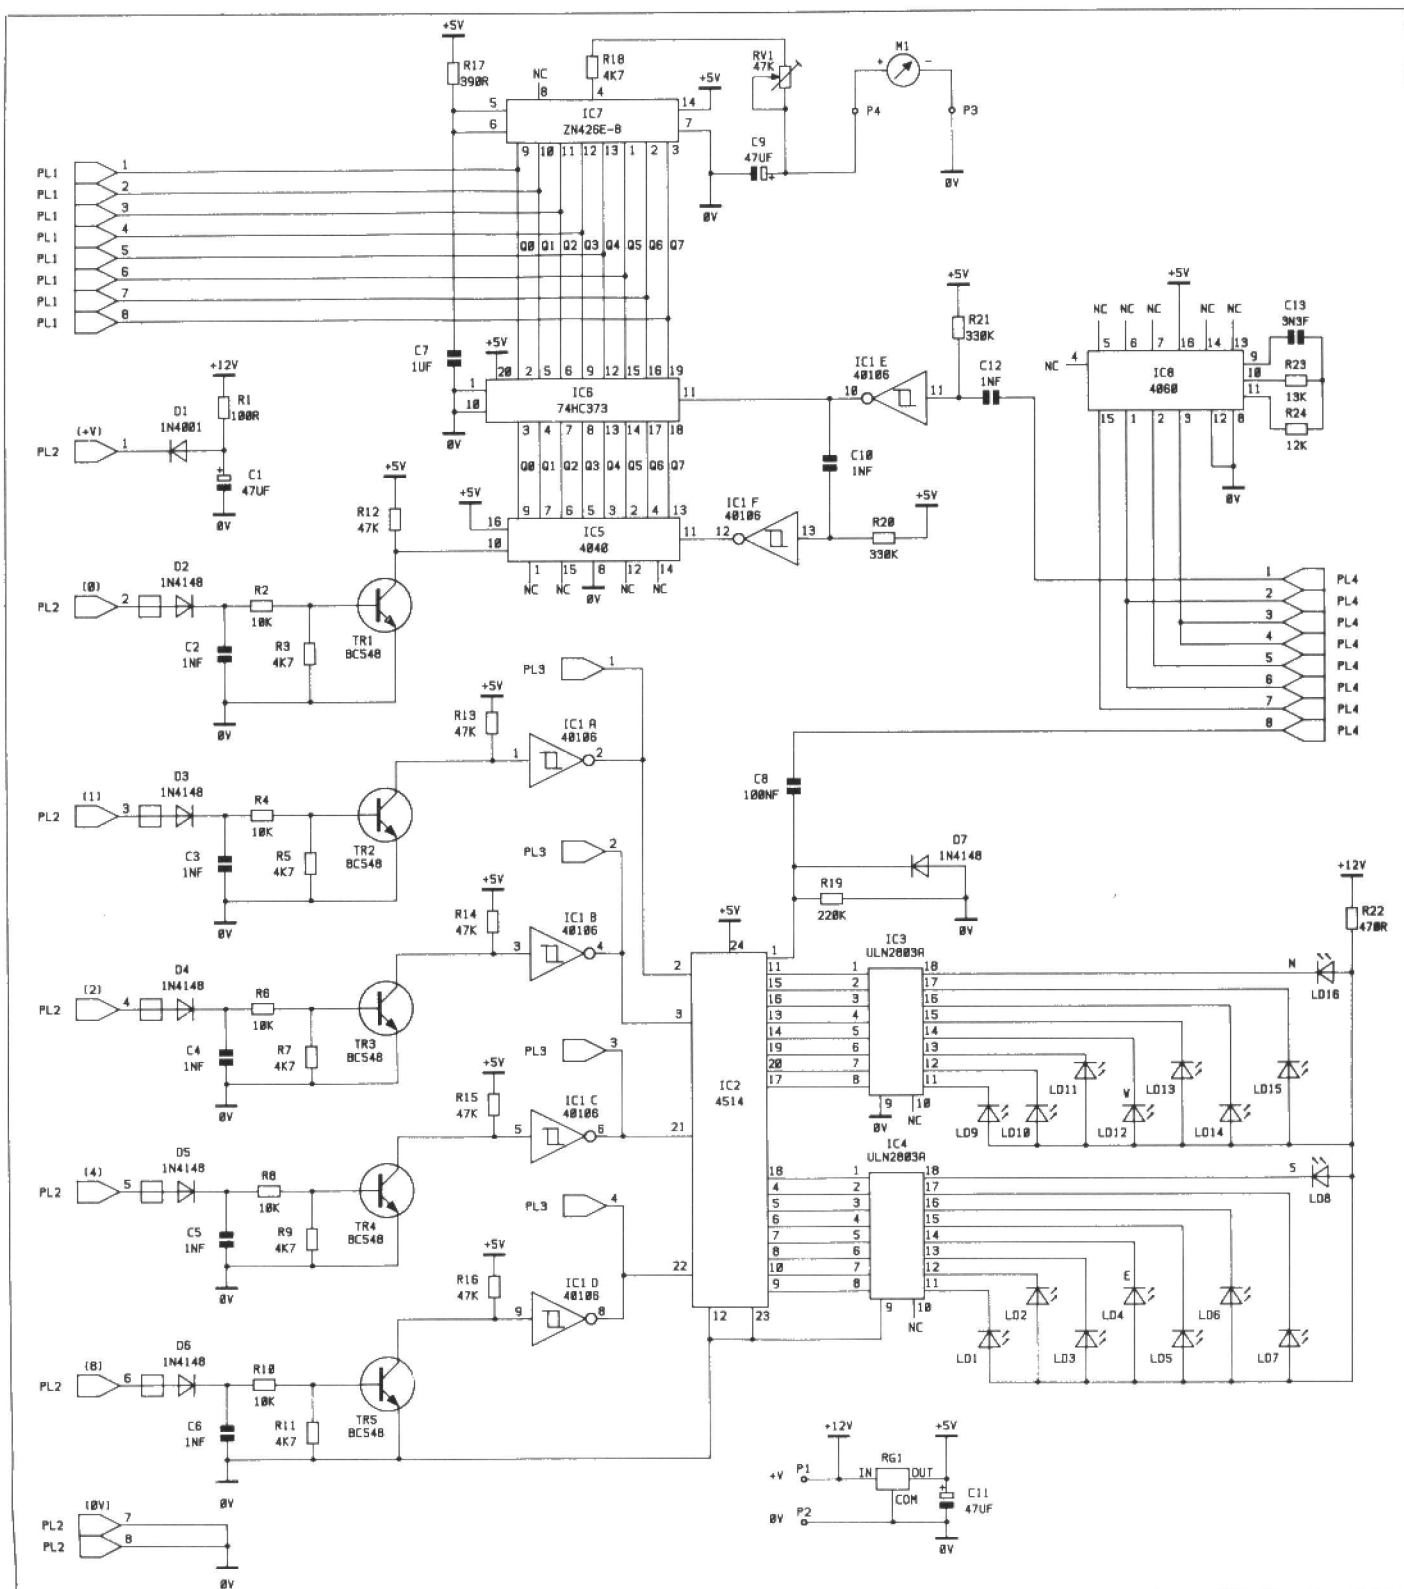

Figure 2. Circuit.
Figure 2 shows the full circuit diagram for the decoder module. The 5V DC power rail is derived from a regulator IC and input voltages from 7.5V to 15V DC can be connected to pins P1 and P2. Power is also supplied to the sensors from pins 1 and 7 on PL2. Latched wind direction data is connected to pins 3 to 6 on PL2 with the least significant bit (1) at TR2 and the most significant bit (8) at TR5. RF filtering in the form of ferrite beads and 1000pF capacitors has been added to reduce RF interference pick-up from using long connecting wires. Transistors TR2-5 buffer the incoming code which is then re-inverted and shaped by the schmitt triggers IC1 A-D and are connected to a 4 to 16 line decoder IC2. The schmitt outputs are also made available for external connection at PL3 pins 1-4. IC2 decodes the 4 bit binary pattern into 1 of sixteen outputs, only one output is active at a time, which is then buffered by drivers IC3-4 and operates one of the common anode direction LED's LD1-16.